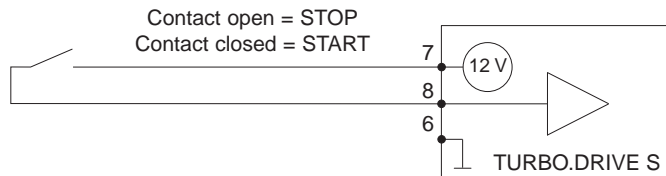

Fig. 9 Pin assignment of the REMOTE (X1) connector
- via pins 7 and 8 of the socket REMOTE (X1) (see Fig. 9) (For example via a remote control or with the aid of the plug with integrated ON/OFF switch: see Section 1.2 Ordering data).
- via contacts 7 and 8 of the socket REMOTE (X1) (see Fig. 9), if parameter 12 = 0.